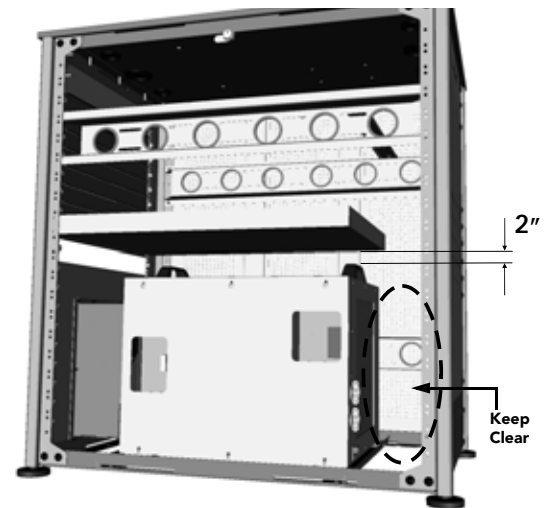

Figure 2-5 Steps to Installing LPS
CAUTION! Do not install any components in front of the lamp power supply that will restrict airflow.. See **Figure 2-5**.
- j. When installing other components in the rack stand allow at least 2” clearance above the LPS handles for ease of servicing. See **Figure 2-5**.